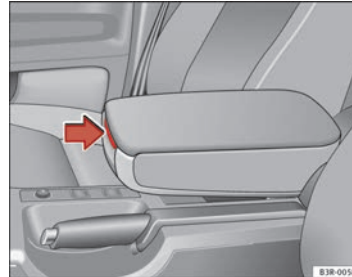

Fig. 112 Armrest between the driver seat and front passenger seat
- Press the release lever ⇒ Fig. 112.